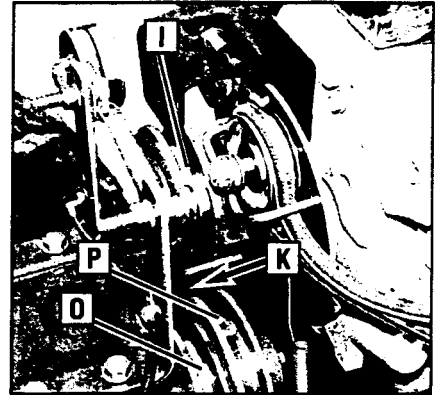
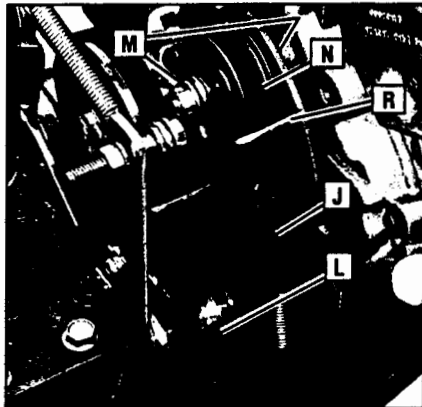
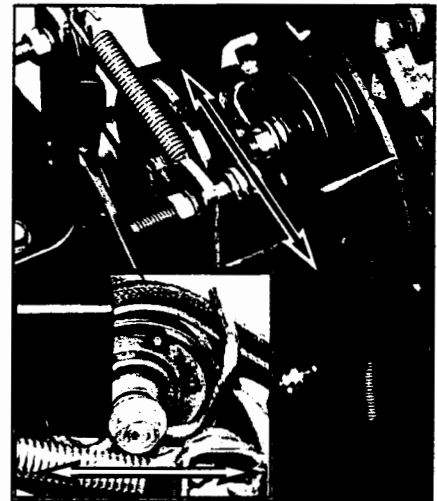

Figure 5-20: Arrow (K) shows insertion point for installing new forward clutch belt.
Figure 5-22: Right-side view.
Figure 5-23: Reverse belt guide positioning.
3. From the front of tiller, insert the forward clutch belt in between the bottom of the engine drive pulley (I) and the top of transmission pulley (K, Figure 5-20).
pull down on the belt and roll it onto the large, forward-most groove of the transmission pulley (P, Figure 5-20).
The reverse clutch belt (J, Figure 5-22) is driven by the engine drive pulley (I, Figure 5-20). When the Reverse Clutch Control knob is pulled out, it pulls the reverse idler arm and pulley (N) which tightens the belt against the engine drive pulley. This drives the transmission drive pulley (L), resulting in reverse motion.
3. Pull the reverse clutch belt downward and slip it off the transmission pulley (L, Figure 5-22).
4. Use two 1/2" wrenches to loosen and remove wire belt guide (R, Figure 5-22) from the reverse idler arm pulley. Do not remove locknut and screw.
**IMPORTANT:** The reverse belt has a "V" shape. When installing the belt, make sure that the widest (flat) side of the belt rides against the reverse idler pulley (N, Figure 5-22) and transmission pulley (L). If needed, the belt can be twisted "inside out" so that the "V" shaped side is on the outside and the widest side is on the inside.
3. Insert the belt down into the front of the transmission housing. Slip the top half of the belt onto the reverse idler arm pulley (N).
4. Pull the belt downward and loop the bottom half of belt around the front groove of transmission pulley (L, Figure 5-22).
6. (You will need an assistant to help with this step.) Pull the reverse idler pulley (N) up to its highest point and position the belt guide (R) horizontally level as shown in Figure 5-23. Securely tighten the screw and lock nut (M, Figure 5-22).